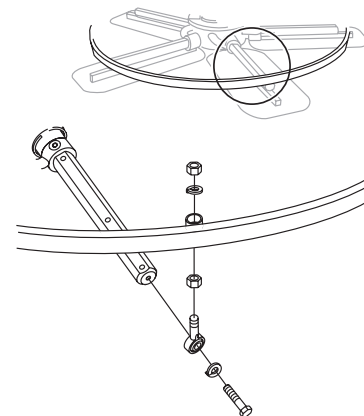

Figure 46. Stabilizer Ring
1. Remove the hardware securing the stabilizer ring to the trowel arm (Figure 46).